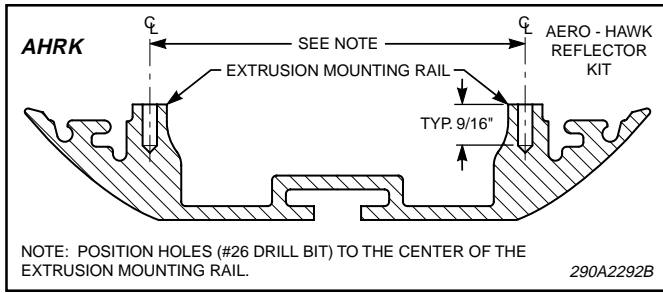

Figure 2.
5. Using the rotating light assembly as a template, scribe three drill position marks on the extrusion mounting rail as shown in figure 2.
6. Using a #26 drill bit, drill 9/16" deep holes at the previously scribed drill position marks as shown in figure 2.